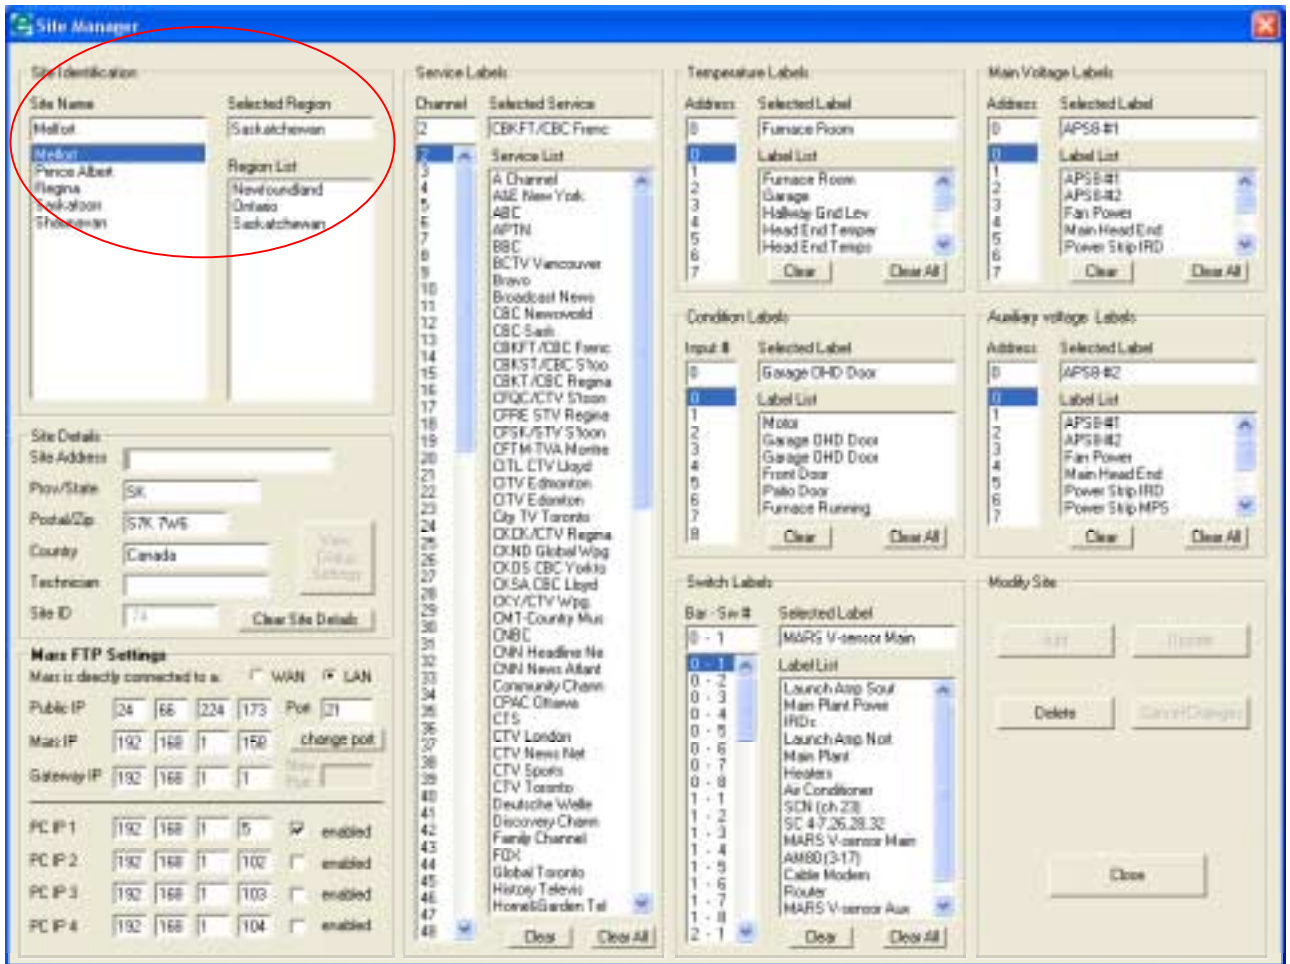

Figure 12: Site Manager Screen
- Select **DataBase Manager/Site Manager** from the **Tools** menu. Enter the ADMINISTRATOR password and press ENTER or select **OK**. When the “Site Manager” screen appears (See **Figure 12**, below), enter a Site name and select an associated region from the Region List.